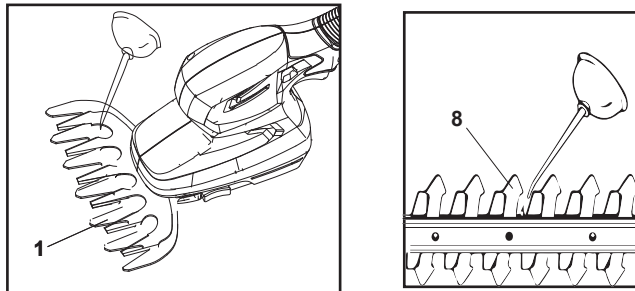

Fig. 9
2. Lubricate the internal surfaces of the blade if the grass shear blade (1) / the hedge trimmer blade (8) overheats during operation.
3. Apply a small amount of suitable lubricant on the blade (1 / 8) to retain a good cutting performance (Fig. 9).